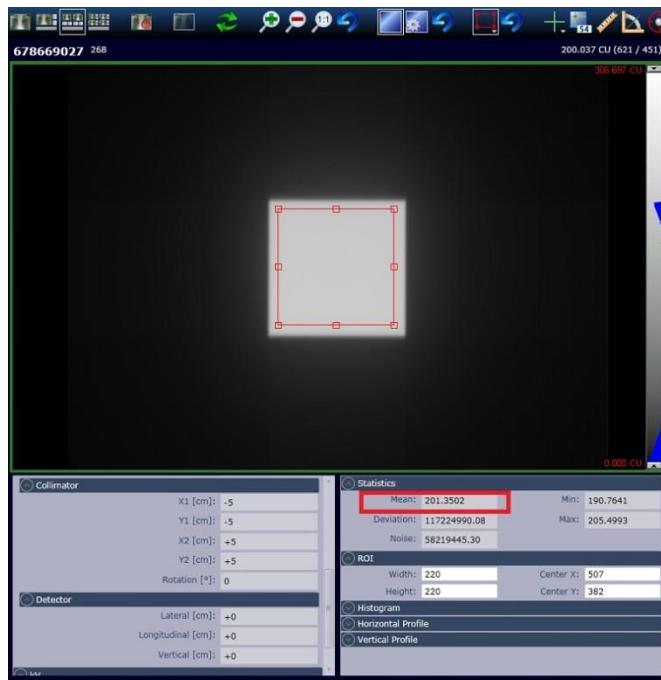

Figure 38: Mean Value of ROI within Open Field (200 MU test shown)
7. Use the ROI drop down menu and select 128×128 ROI. Place the ROI approximately in the center of the $10 \times 10 \text{ cm}^2$ image. Use mouse to drag the edges of ROI until it is just within the $10 \times 10 \text{ cm}^2$ image. (See Figure 38).